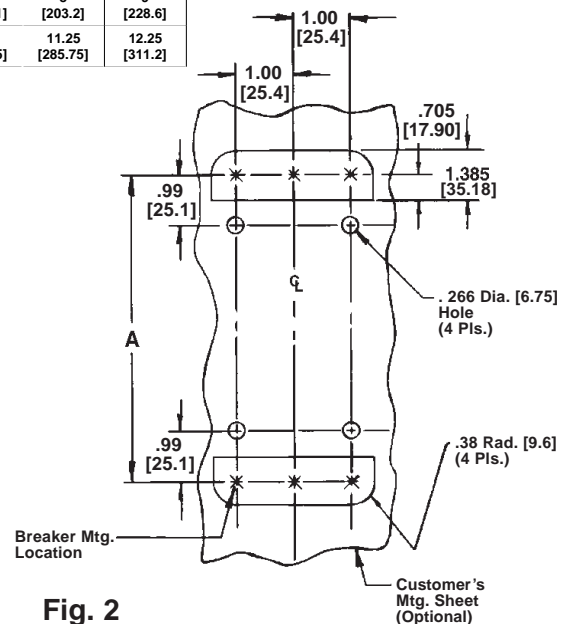

Fig. 2
3. If other mounting means are to be used, provide the cutouts and drilling required to mount the adapter blocks as shown in Fig. 2.